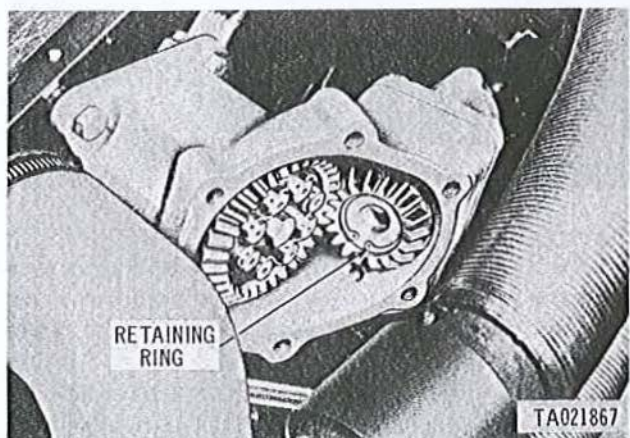

Figure 2-161. Removing or installing camshaft drive gearshaft plug retaining ring.
(2) Remove retaining ring (fig. 2-161) and camshaft drive gearshaft plug with mechanical puller Part No. 8761297 (fig. 2-162). Remove camshaft drive shaft using mechanical puller Part No. 8761297 (fig. 2-163).